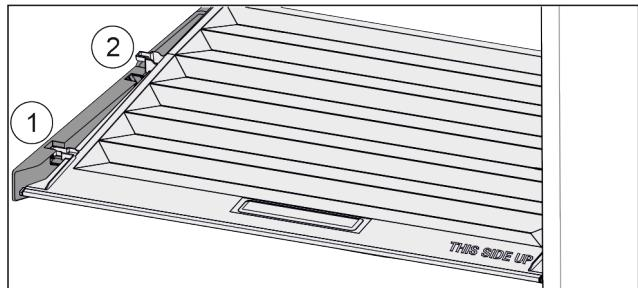

Fig. 25
- Pull the lid up at the front to the opening in the retaining parts Fig. 25 (1).
- Lift from the back and pull it up and out Fig. 25 (2).